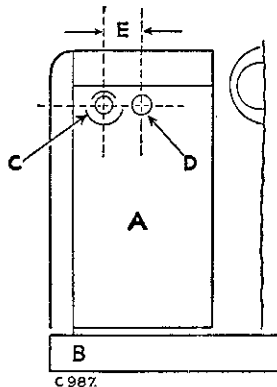

Fig. T-37—
11. Drill the wings as shown in Fig. T-37.